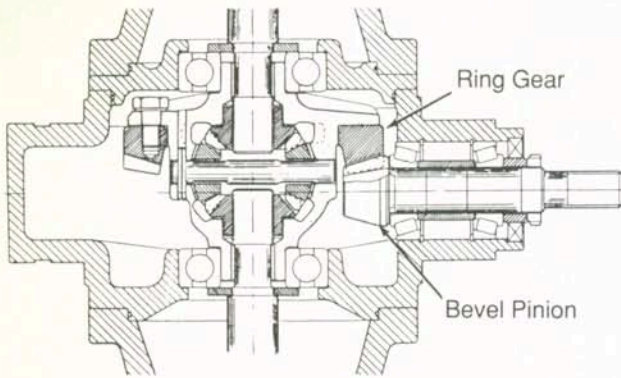

Fig. 13—Cross section of typical front drive differential assembly.
**NOTE:** On 1010 Hydro tractors, the ring gear (24) and cover (33) are located on left side of pinion. The ring gear and cover of all other models are located on the right as shown in Fig. 12 and Fig. 13.